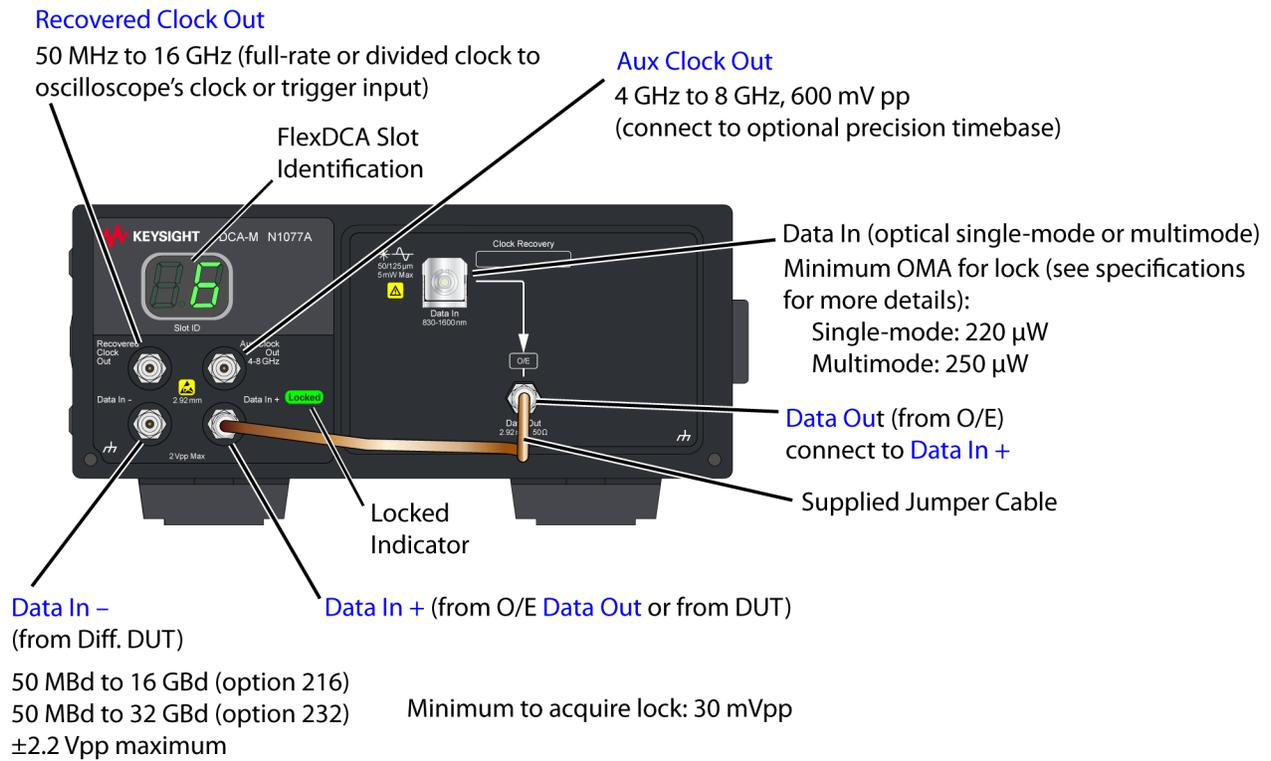
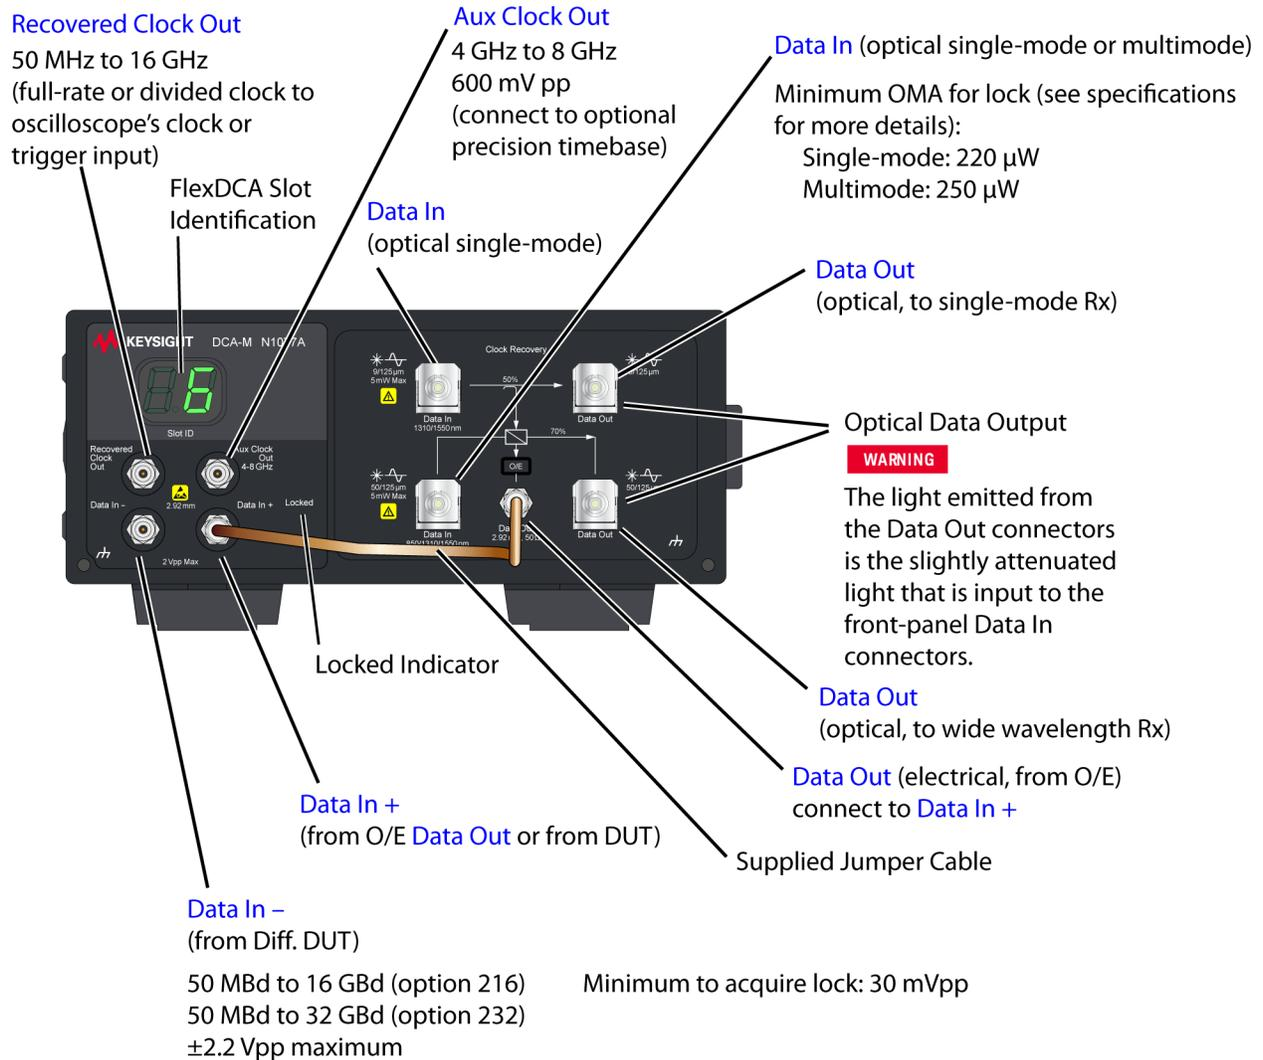

Figure 30. N1077A-SXT Front-Panel Connectors
Figure 31. N1077A-SMS Front-Panel Connectors
See Figure 30 on page 71 and Figure 31 on page 72 shows the N1077A-SXT and N1077A-SMS module front-panels. Option SXT modules do not have an internal optical splitter and have one multimode optical input. Option SMS models include an internal optical splitter and both single-mode and multimode optical inputs and outputs. The optical internal splitter provides a slightly attenuated input signal at the optical **Data Out** connectors. This output can be used for input to a receiver module or other test equipment.
1. Confirm that the input signal meets the baud rate and amplitude requirements shown in *Figure 31 on page 72*. In this procedure, the following assumptions are made for simplicity. You can change these parameters to any acceptable values.
- b. Connect the supplied semi-rigid coaxial jumper cable between the front-panel **Data Out** and **Data In +** connectors as shown in *Figure 31 on page 72*.